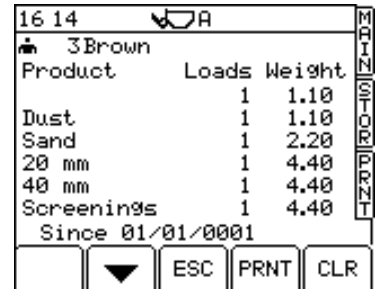

Figure 31
- (i) for a selected customer, the no. of loads and amount of each product stored to the selected customer (fig. 31).